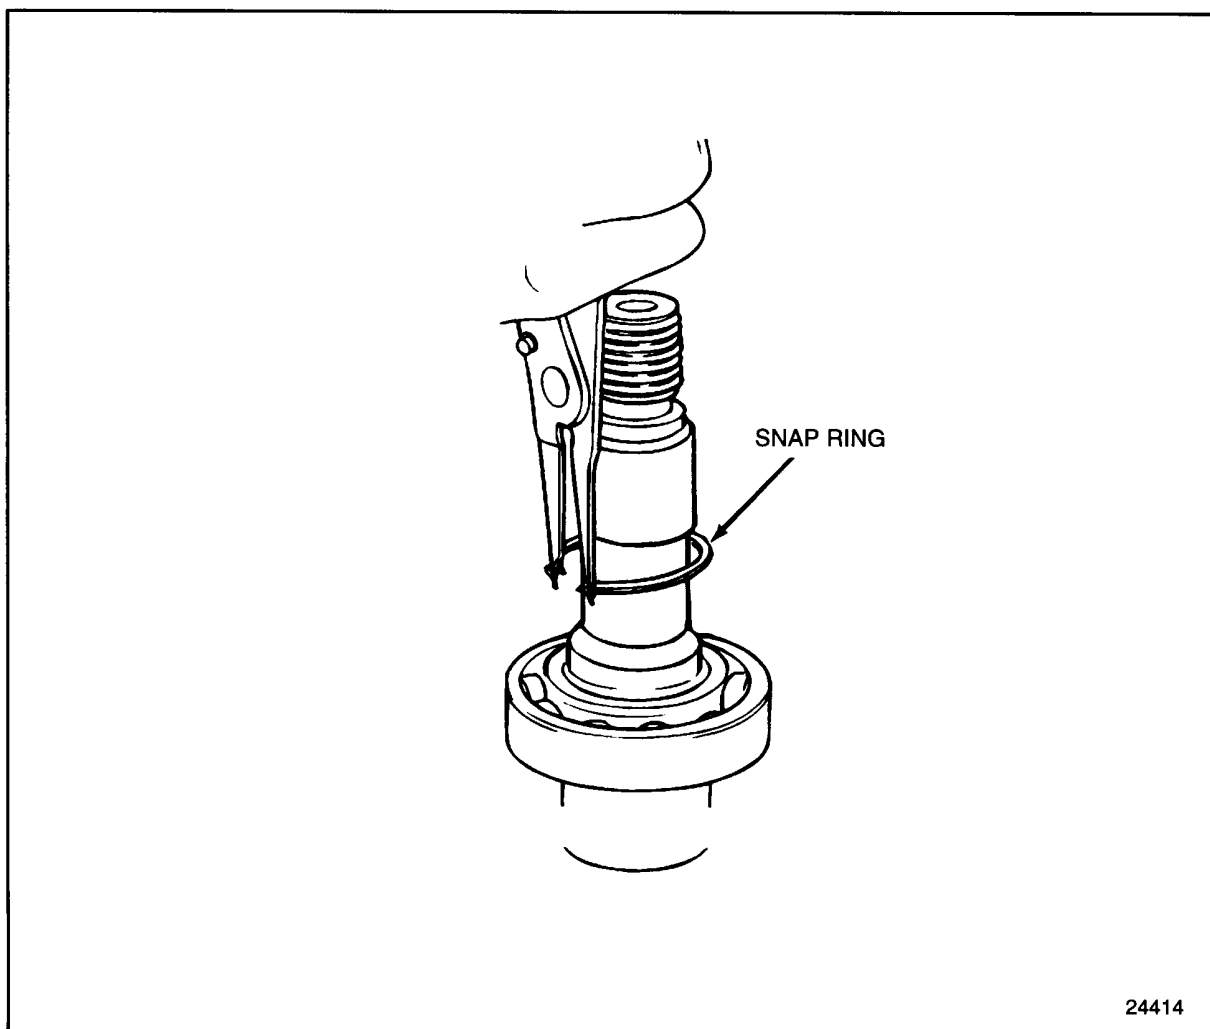

Figure 1-396 **Snap Ring Removal**
16. Remove the snap ring from the accessory driveshaft. See Figure 1-396.